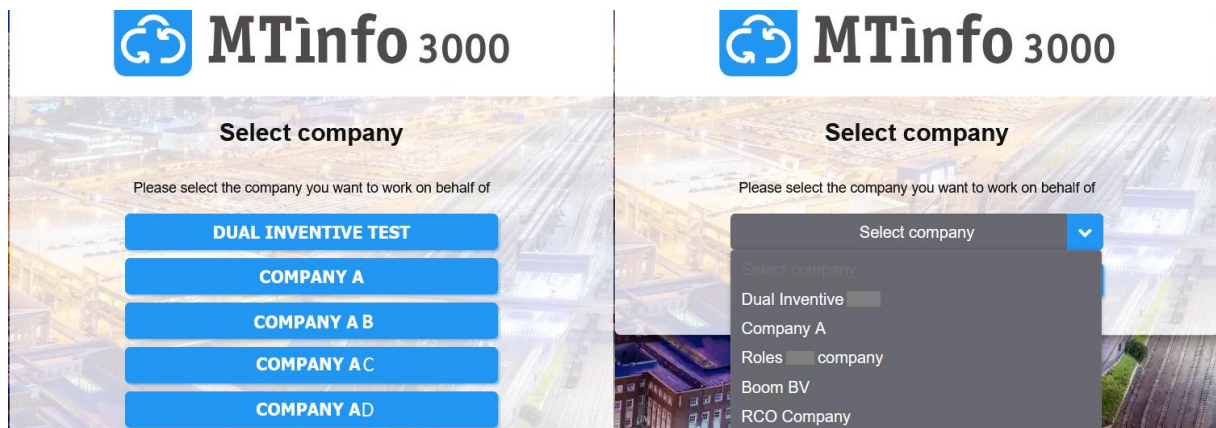

Figure 4 Select company
- If you belong to more than 5 companies, the companies will appear in a drop-down list (see Figure 4).